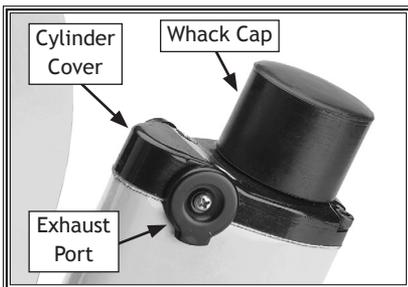

Figure 8. Whack cap and cylinder cover.
- Use a flat head screwdriver to pry off the whack cap (see **Figure 8**).